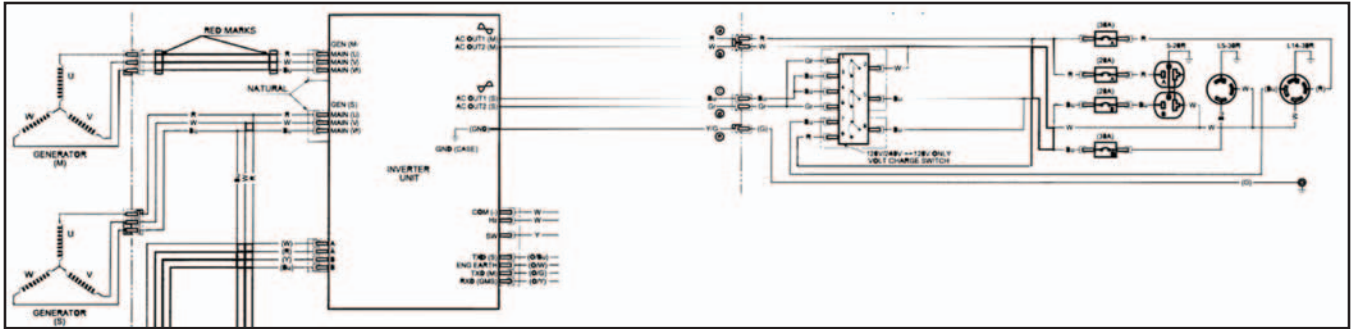

Figure 2 – Wiring Schematic of the North American EU6500i
With just a glance at the wiring schematics of the US and UK models in **Figures 2** and **3**, you will notice that the back end of the UK model is the same as the North American model. Both machines use inverter modules (IU) to convert 3-phase AC power to DC, and then a microprocessor to switch the DC back to AC according to a pulse width modulation logic (PWM) to create a 120 V circuit (see Part 3 of this series in the Summer 2017 issue of *Protocol* for details.) Both generators array two 120 V circuits in series, and 180 degrees out of phase, to generate 240 V power, while the North American model offers the option to configure the circuits in parallel to provide more 120 V power.